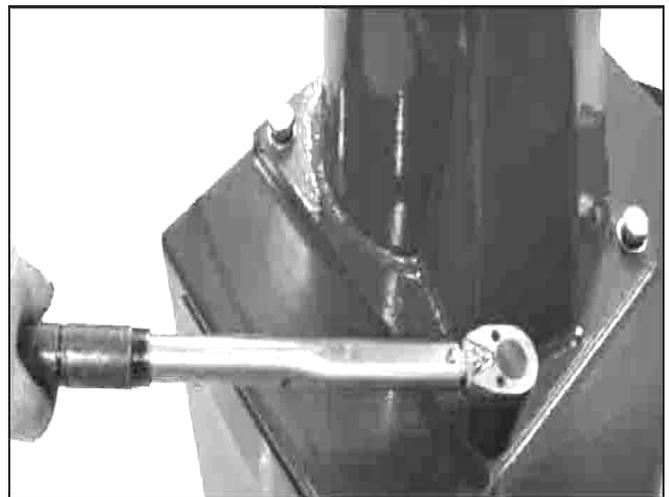

FIG5
3.2.1 After un-package the package carton, take out accessory boxes (FIG 4-1) ,bead breaking arm (FIG 4-3) and column assembly (FIG 4-2) . And position and fix according to the FIG5. Remove the bolt, elastic washer and plate washer on the body (FIG 4-4) .
3.2.2 Place the column on the body. The direction of the warning label is forwards. Make the holes on the column base plate align to thread holes on the body. Once again assemble the removed the bolt, elastic washer and plate washer removed in 3.2.1 The torque is 70 N·M (FIG5) Use torsion wrench to tight